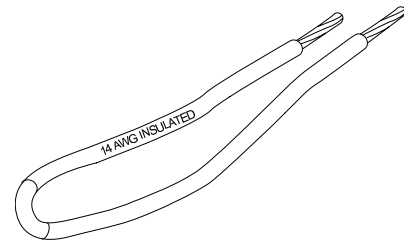
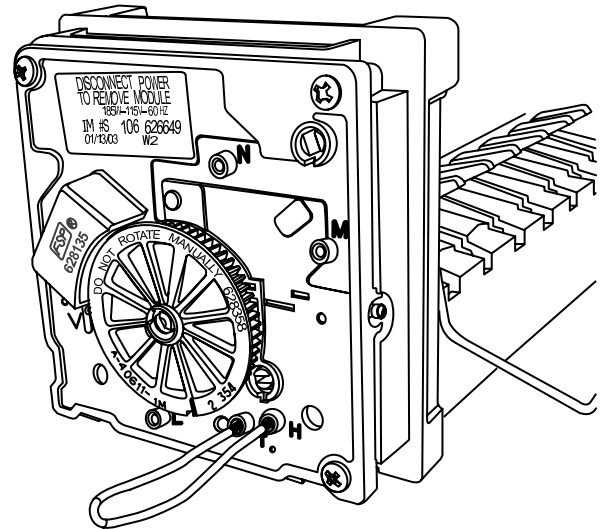
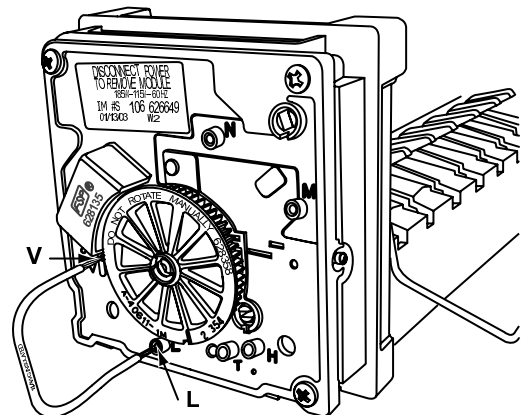

Figure 57. Jumper wire
Figure 58. Cycle testing ice maker
Figure 59. Checking water valve operation
5. Jump terminals T and H. Use a 14 AWG jumper wire with 1/2 inch insulation stripped from ends. Jumper wire is shown in Figure 57. The jumping of T and H is shown in Figure 58.
2. Jump test point V and L. See Figure 59. Use a 14 AWG jumper wire with 1/2 inch insulation stripped from each end (as shown in Figure 57). The solenoid should click and buzz if it is operating properly. If the solenoid does not click and buzz, replace the water valve (see page 58).